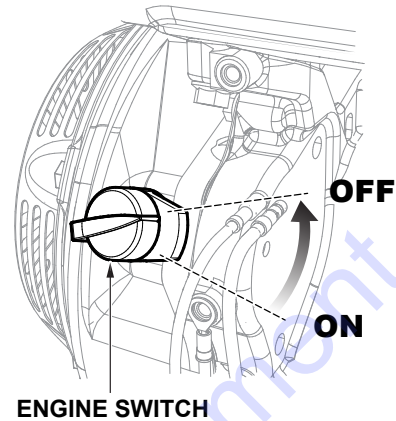

Figure 45. Engine ON/OFF Switch (OFF)
3. Release the handle and place the engine ON/OFF switch in the **OFF** position (Figure 45).